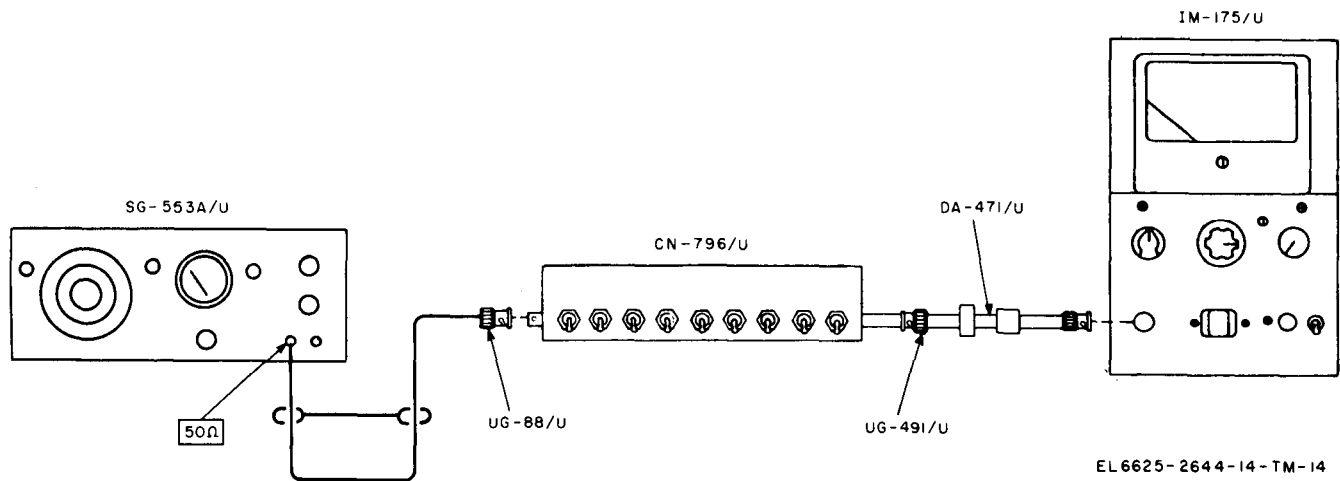

Figure 7-3. Attenuator, test setup.
b. *Test Connections and Conditions.* Interconnect the equipment as shown in figure 7-3.